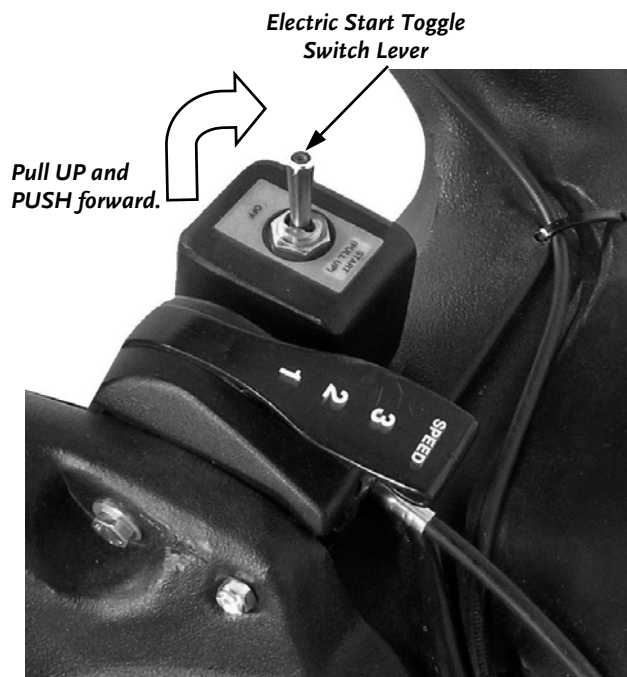

Figure 9
3. Pull UP on the Electric Start Toggle Switch Lever and PUSH forward (**Figure 9**) to the START position until the Engine starts, then release. The Switch Toggle Lever will snap back to the center position and the Engine will continue to run.